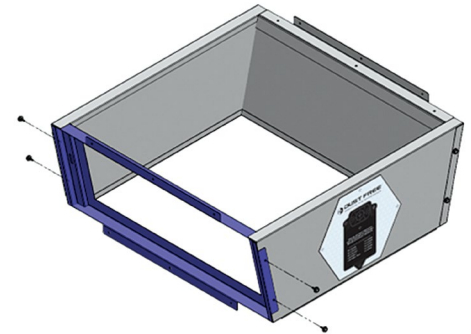

Figure 8: Secure door frame to rest of unit with supplied No.10 x 3/8" screws
7. Secure the door frame to the side panels using the supplied No. 10 x 3/8" screws in the aligned pre-drilled holes as depicted in **Figure 8**.